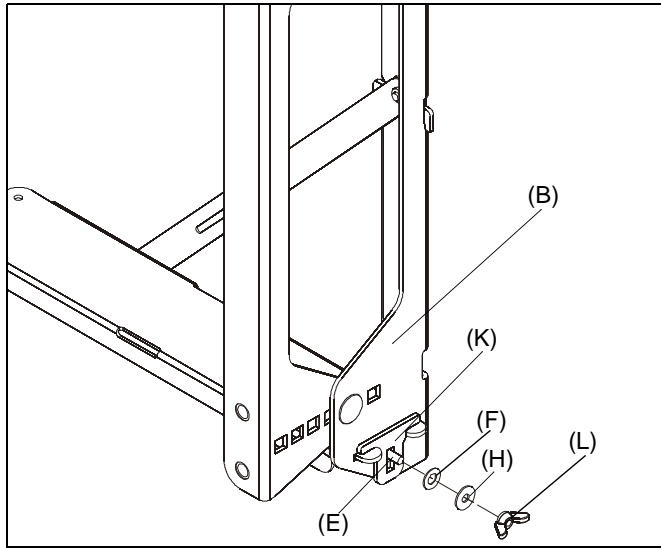

Figure 5
2. Use #10-24 x 5/8" carriage bolt (E), #10-24 wing nut (L), 1/4" washer (F) and #10 washer (H) to secure locking tab (K) to right wall bracket (B). (See Figure 5)